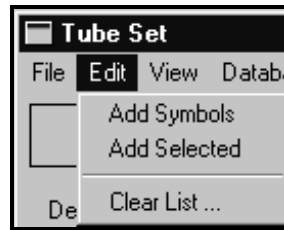

Figure 3-71. Tube Set > Edit Menu
As shown in Figure 3-71, the Edit menu contains three (3) choices. They are Add Symbols, Add Selected and Clear List....